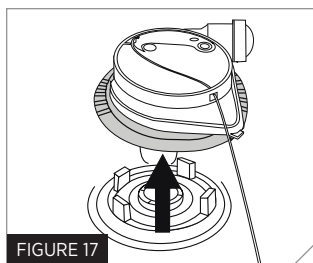

FIGURE 17
6. Once you can no longer turn the black locking ring, you will be able to pull the entire inflator cap (yellow piece and black locking ring together) off the PFD (Fig. 17). Discard this used inflator cap. (Through the clear O-ring, you will now see the used inflator body - which looks like a black circular disc - attached to your used gas cylinder.)